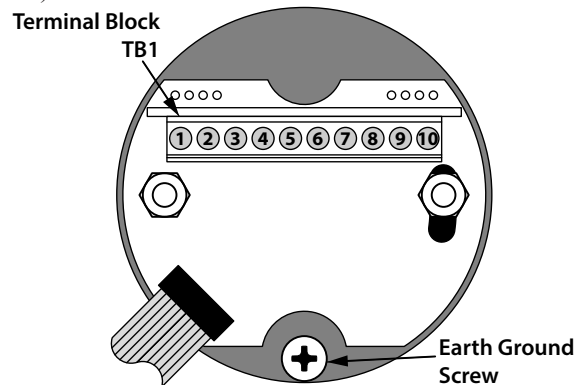

Figure 4: Terminal Block View
2) Remove the nylon insert lock nuts that hold the User Interface Board in place, to reveal the terminal block TB1 (see Figure 4).
- Connect the Vac's earth ground wire to the ground screw inside the SG1000RA housing (see Fig 4 for location of ground screw).